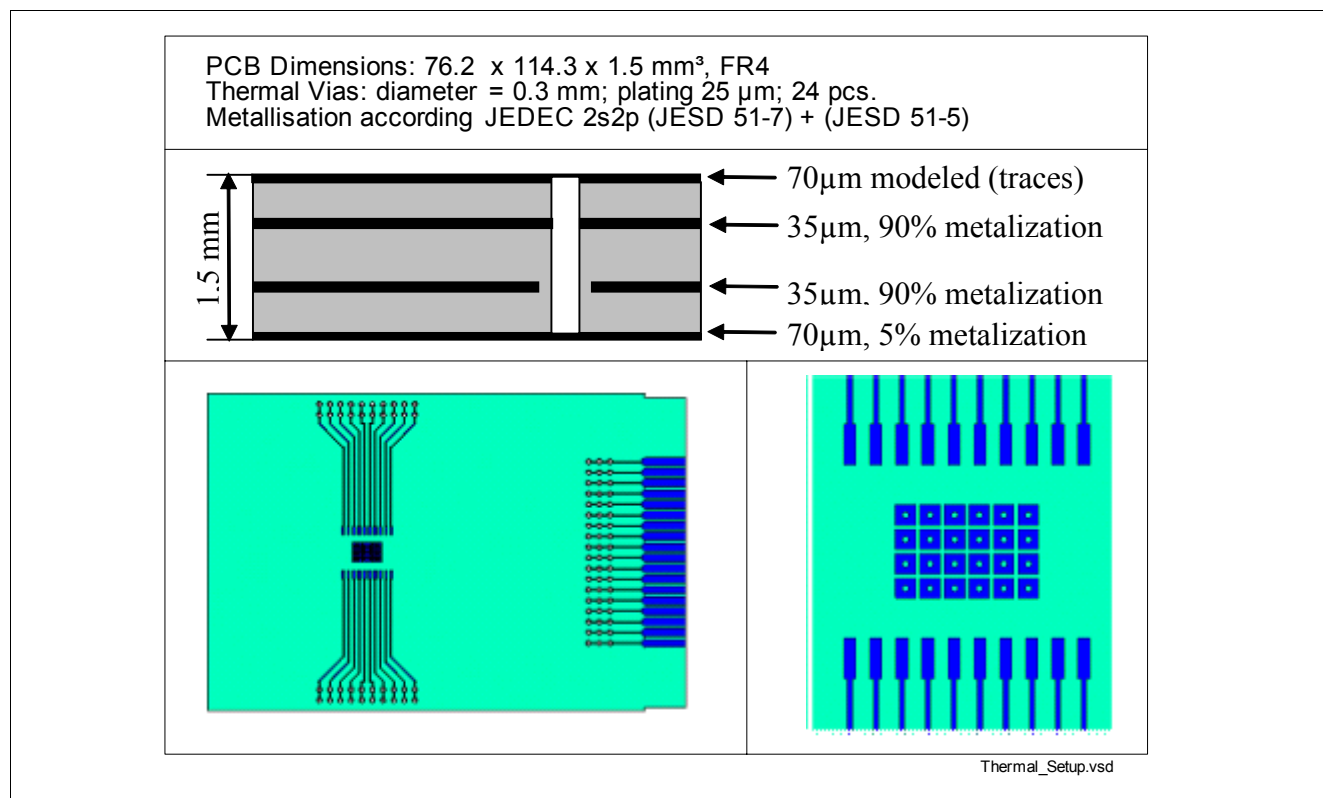

Figure 4 Thermal Simulation - PCB setup
2) PCB set-up according Figure 4